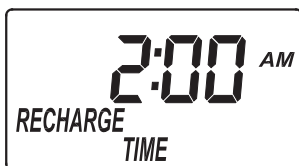

FIG. 15
1. If you completed the previous step, the words "RECHARGE TIME" should show in the display (See Figure 15). Otherwise, press the SELECT button several times until they do.